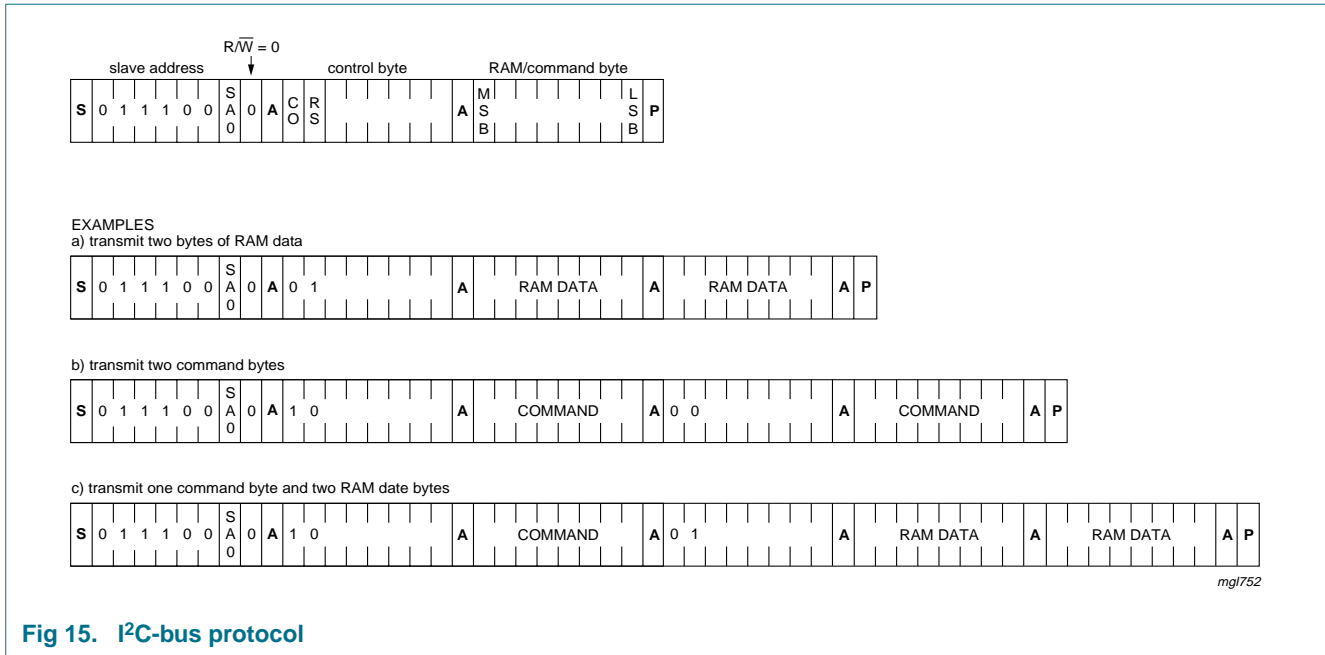

Fig 15. I²C-bus protocol
The I²C-bus protocol is shown in Figure 15. The sequence is initiated with a START condition (S) from the I²C-bus master which is followed by one of the two PCF8532 slave addresses available. All PCF8532's with the corresponding SA0 level acknowledge in parallel to the slave address, but all PCF8532's with the alternative SA0 level ignore the whole I²C-bus transfer.